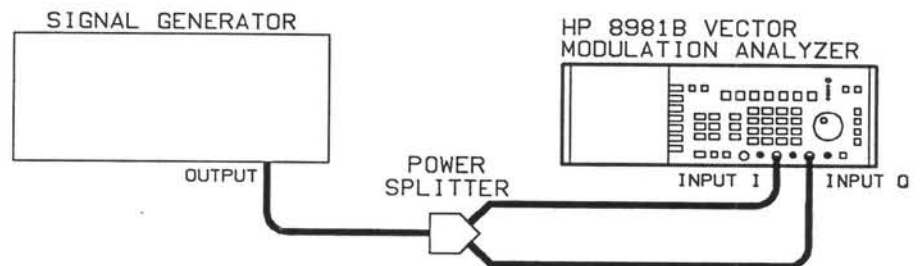

Figure 4-10. I vs Q Timing Accuracy Test Setup
2. Connect the equipment as shown in Figure 4-10: